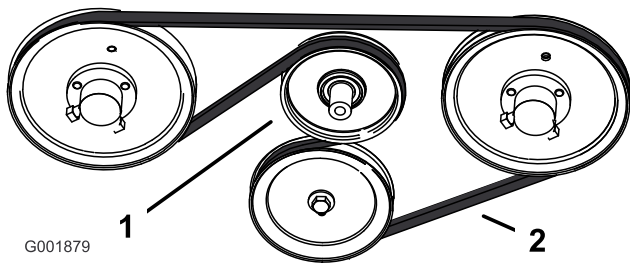

Figure 2
6. To replace the belt, pull the spring loaded idler down and remove the traction belt from the engine and hydro pump pulleys (Figure 2).
8. Install the new belt around the engine and hydro pump pulleys (Figure 2).
9. Pull the spring loaded idler down and install the belt. Release the pressure on the spring loaded idler (Figure 2).